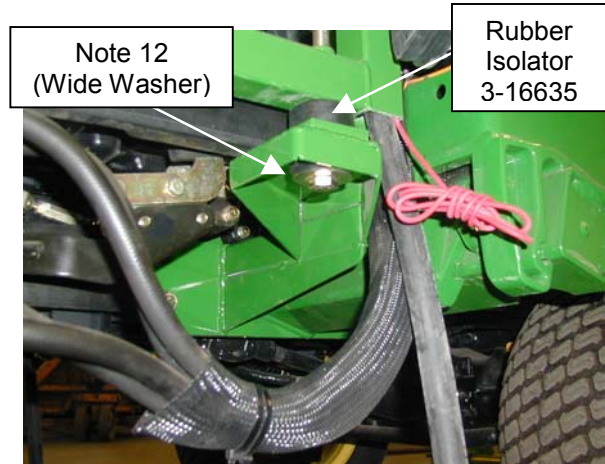

Figure 10
10. Install (2) lift brackets #6-42570 using (2) ¼-20 bolts x ¾" long #3-10219 and (2) ¼" flat washers #3-10084. Remove cab from shipping stand. Lower cab over roll bar until cab contacts **front** isolator bushings (See Figure 10). Support rear of cab until front mounts are secured.